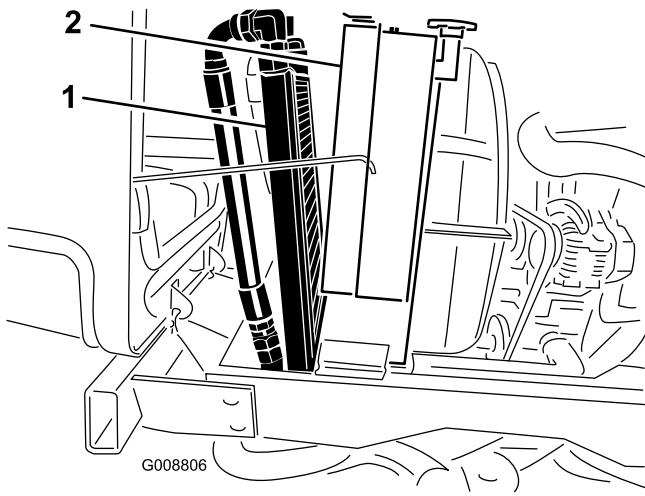

Figure 62
3. Pivot the oil cooler rearward. Clean both sides of the oil cooler and radiator area (Figure 62) thoroughly with compressed air. Start from the fan side and blow the debris out towards the back. Then clean from the back side and blow towards the front. Repeat procedure several times until all chaff and debris is removed.